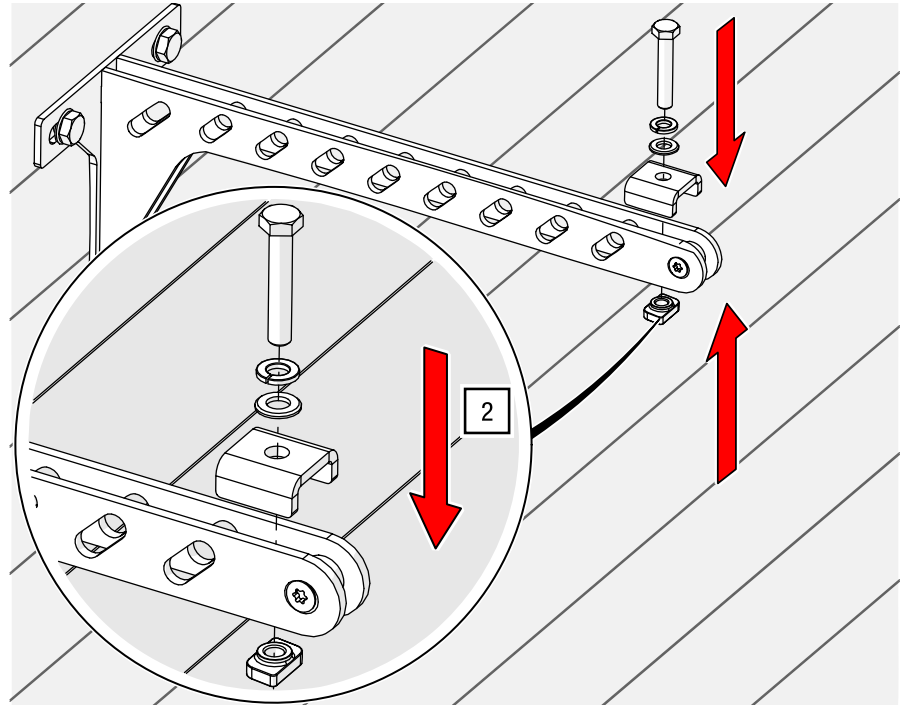

Fig. 68: Wall mount bracket – Pre-assemble screws with slot nut
- Place the U-sheet metal on the wall mount bracket and the slot nut and turn the screw a few turns by hand (see Fig. 68).